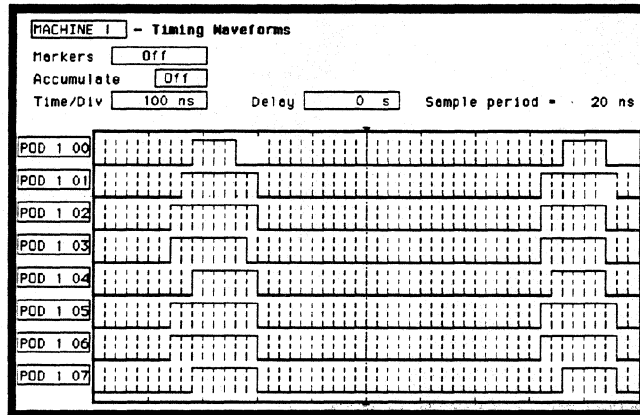

Figure 3-35. Glitch Test Timing Waveforms
6. Press RUN. The timing analyzer acquires data and shows glitches for channels under test as in figure 3-35. Select the Delay field and rotate the knob to assure consistent glitch detection.